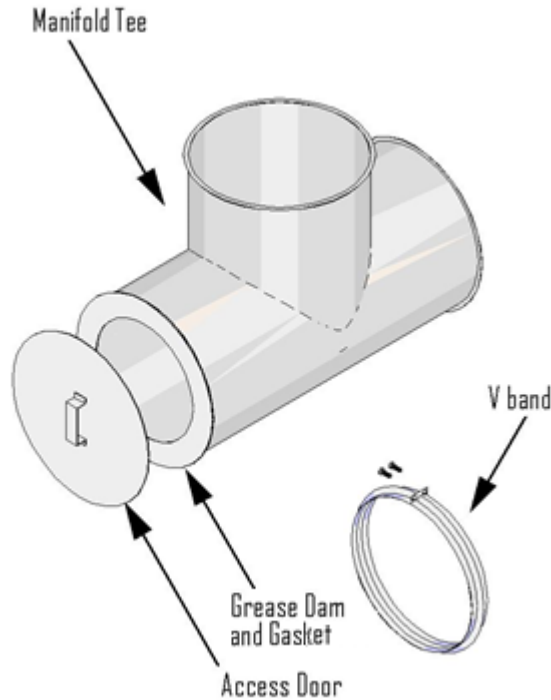

Figure 2. Access Door Assembly
- B. ACCESS DOOR – When required, use the duct manufacturer's manifold tee and access door (tee cap) assembly (see Figure 2). Apply a 1/4 in. continuous bead of sealant (Item 2A) to the flange of the tee on the side where access door is to be located.